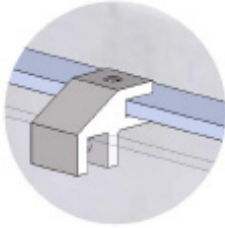

FIG.19A
- Once the fixed panels and brace are installed slide the brace into the brackets. Realign the brackets on their panels if necessary and tighten grub screws (FIG19a).